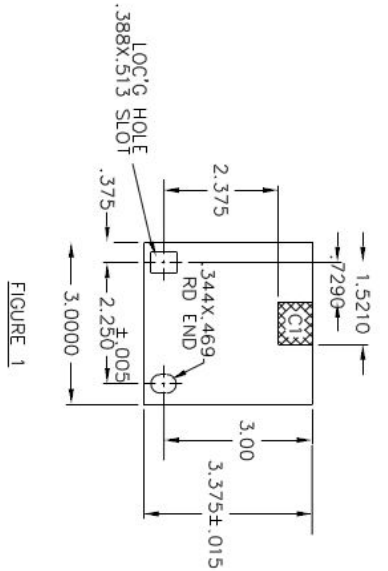

FIGURE 1
1. DETAIL PLATES ARE SAME AS VAC-CLAD (693C436), EXCEPT C1 MATERIAL REMOVED VC-W FIGURE 1